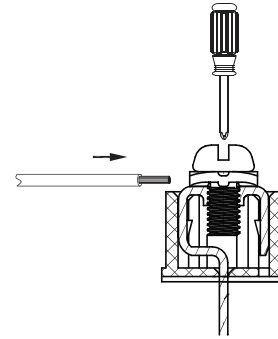

Fig. 17 — Connecting Communication Wire to Outdoor Unit Communication Terminal
3. Use a suitable screwdriver to fix the communication wire on the outdoor unit communication terminal as shown in Fig. 17 below.